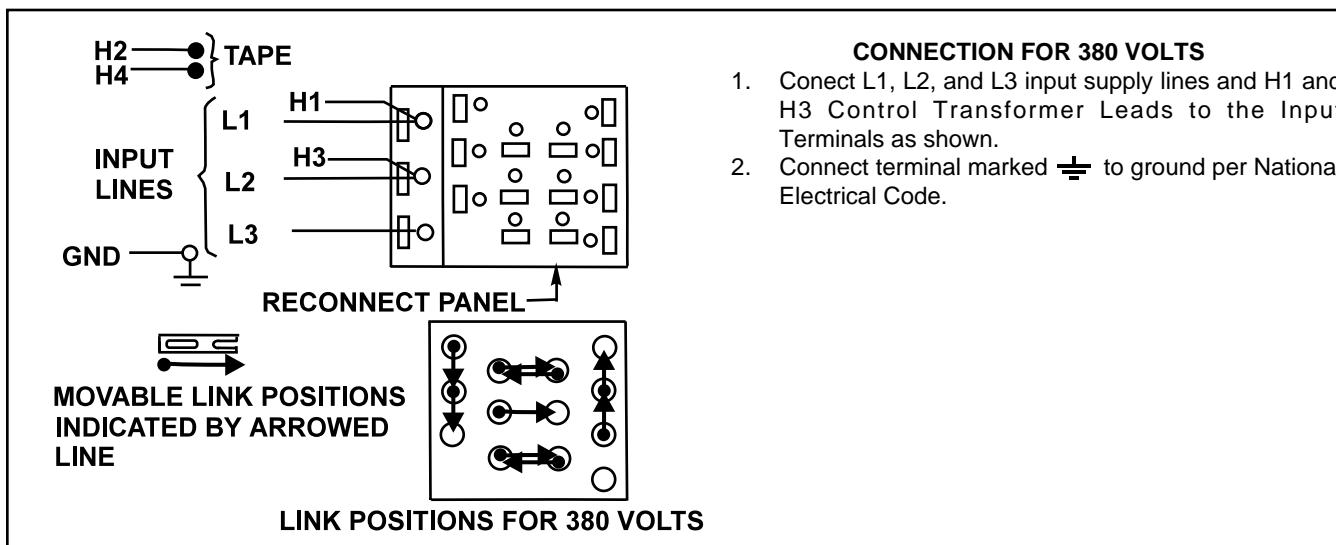

FIGURE A.3b - Input Connection Diagram
2. For 380 Single Voltage Machines, refer to Figure A.3b.